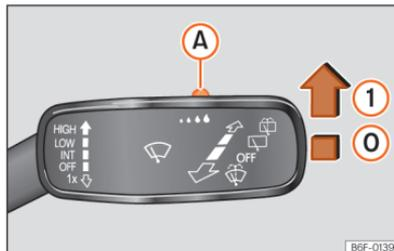

Fig. 76 Windscreen wipers lever: adjust the rain sensor (A).
Push the lever to the desired position >>> Fig. 76.
- ① Rain sensor on; automatic wipe if necessary.
When the ignition is switched off and then back on, the rain sensor stays on and starts operating again when the windscreen wipers are in position >>> Fig. 76 ① and the vehicle is traveling at more than 16 km/h (10 mph).